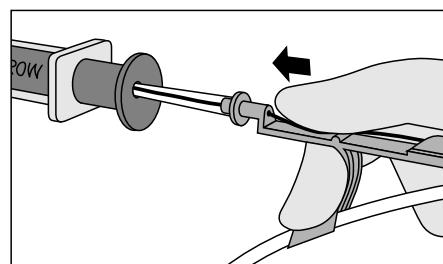

Fig. 6
- Advance spring-wire guide into the syringe approximately 10 cm until it passes through the valves (refer to Fig. 6).